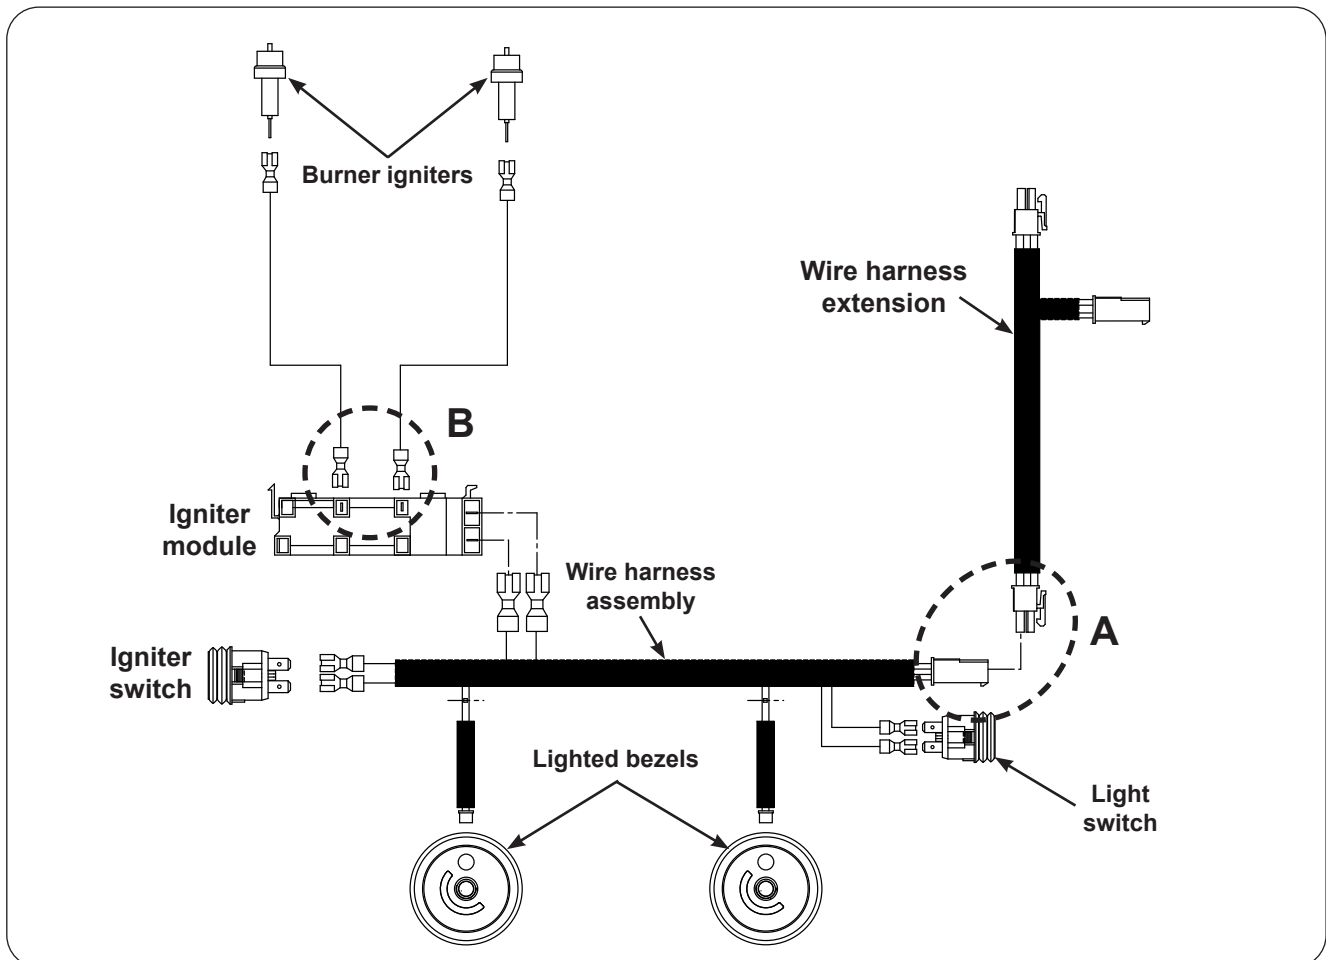

Fig. 36-1 - Wire diagram
4. Slowly lift away the lighted bezels to clear the valve stems, and carefully disconnect the wires found on the back of the bezels (use your fingernail). See Fig. 36-1.
7. Disconnect the main wire harness connection (Fig. 36-1, **A**) and the igniter wires (Fig. 36-1, **B**). It is recommended to temporarily label the wires for reference when reconnecting. See Fig. 36-1. When disconnecting, be sure to pull from the connectors, and not the wires.